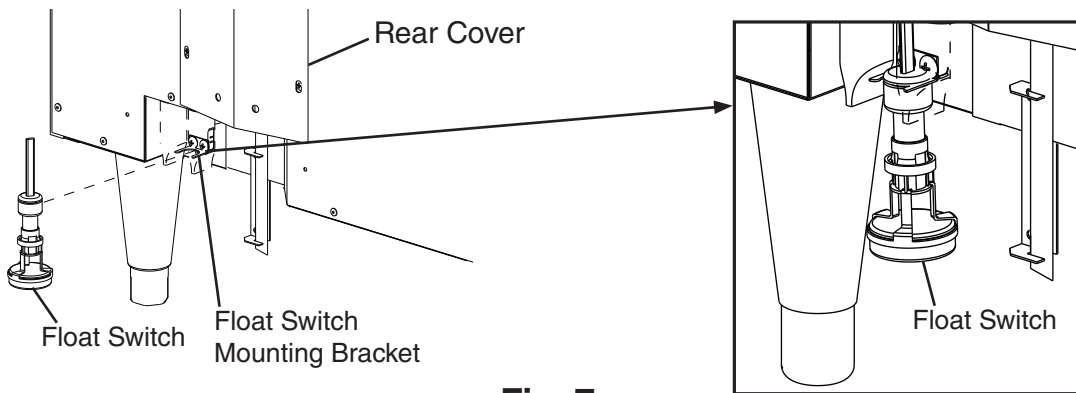

Fig. 7
- 7) Next, Secure the float switch to the pre-installed float switch mounting bracket. See Fig. 7. **NOTICE! Confirm that the float switch moves freely.**